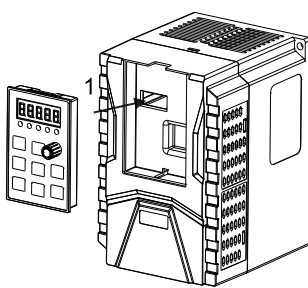

Figure3-5 Keyboard's installation
B. Keyboard's installation, showing as Figure3-5, put the keyboard flush into the keyboard slot, then press keyboard by direction 1 until hear the Click sound meanwhile the keyboard on a level with front surface then OK.